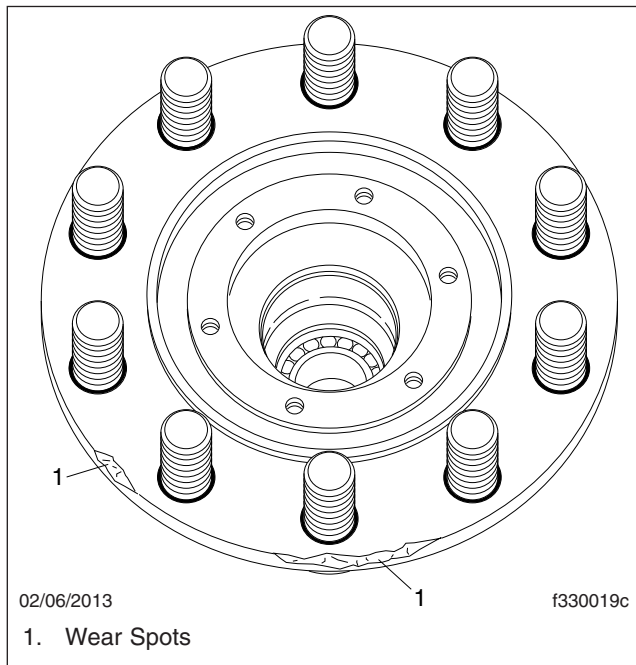

Fig. 1, Damaged Front Axle Wheel Hub
1. Inspect the wheel hub mounting flange. A loose wheel assembly will cause the flange to be worn, jagged, or warped. See Fig. 1. Replace the wheel hub if any of these conditions exist.